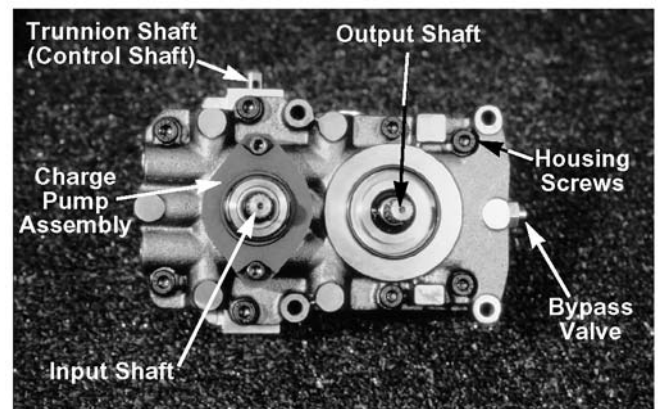

Figure 5-14.
- F. Housing screws. See Figure 5-14.